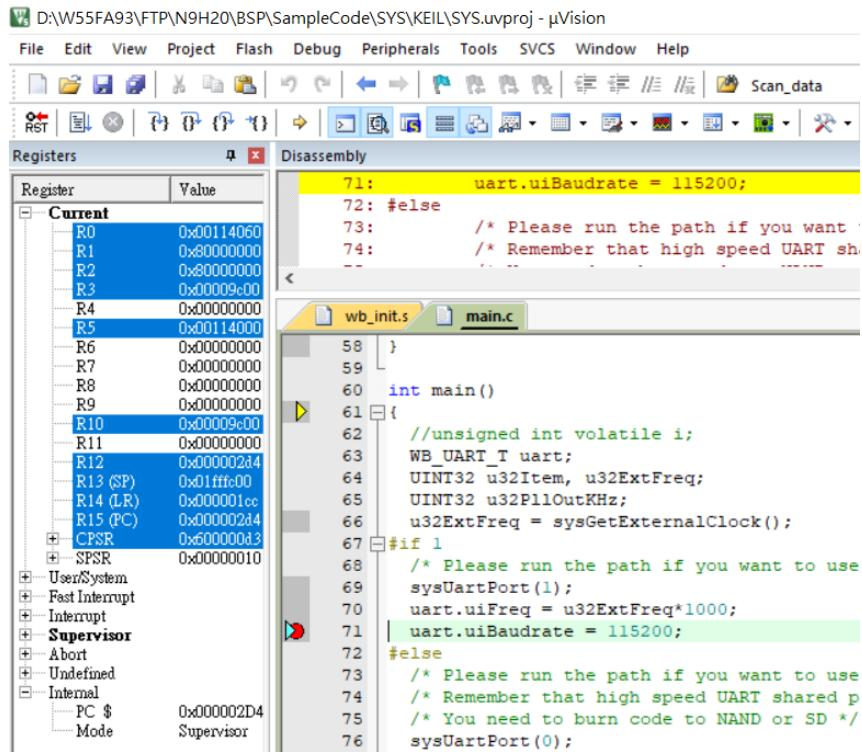

Figure 2-14 Set Breakpoint
6. A breakpoint can be enabled and disabled by left-clicking on its icon as shown in Figure 2-14.